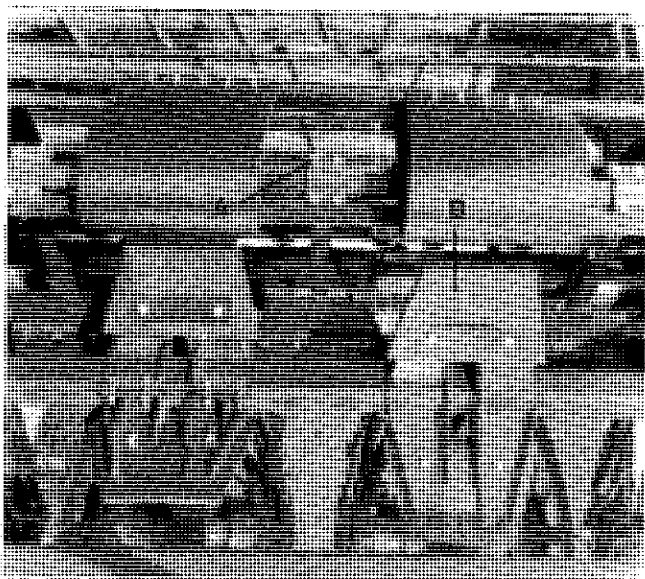

FIGURE 23 - BARRIER ADJUSTMENT
When flex lifter wheel struts are used, the paddle shaft bearings must stay mounted in the top holes and rubber paddles (B) (see figure 23) are attached to the steel paddles. With the paddle shaft in the top holes, the lifter wheel struts can flex without hitting the paddle shaft. The rubber paddles are added to bring the active tips of the paddles to the desired positions.
To adjust barriers (see figure 23), loosen bolts (A), center barriers between lifter wheels, tighten bolts.